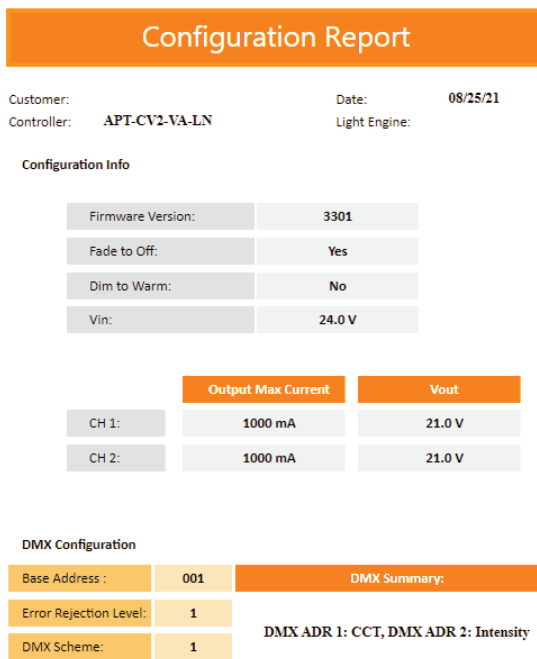

Figure 23: Example of the first page of a generated report
- 5 Click **Generate Report**, the default web browser will open and display a preview of the print (shown in Figures 23& 24).